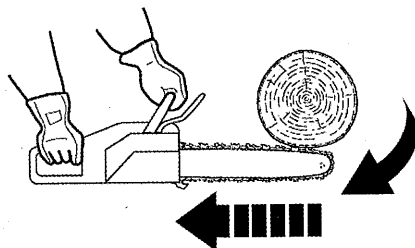

Fig. 32
2. Pinching the saw chain (7) along the top of the guide bar (8) may push the guide bar rapidly back toward the operator ("bouncing") (Fig. 32).